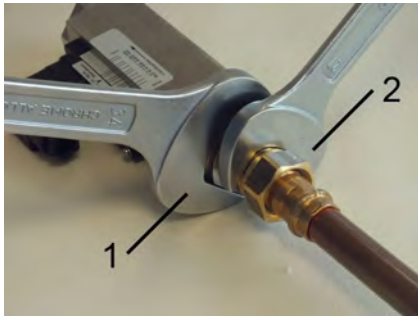

Fig. 11: Screw in the device
2. Fasten the adapter union of the pipeline with an appropriate spanner (Fig. 11/2). When doing so, lock the process connector in place to prevent slip, using a suitable spanner. (Fig. 11/1)